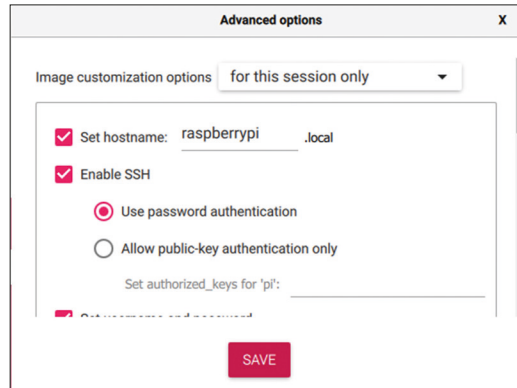

Figure 1.9: Settings options.
- Click the Settings icon (gear-shaped) at the bottom right of the screen and set the following (Figure 1.9):